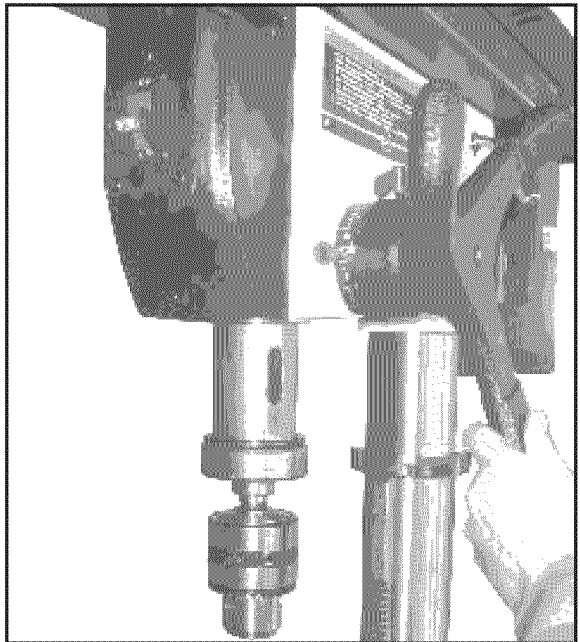

Figure 17
2. Lower the spindle to the desired depth. (Figure.17)